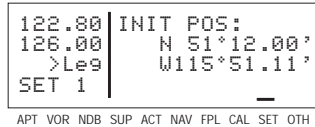
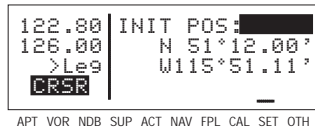

Figure 4-56
Figure 4-57
1. If the cursor is not on the screen (figure 4-56), press the **CRSR** button to bring it on the page over the **INIT POS** field (figure 4-57).